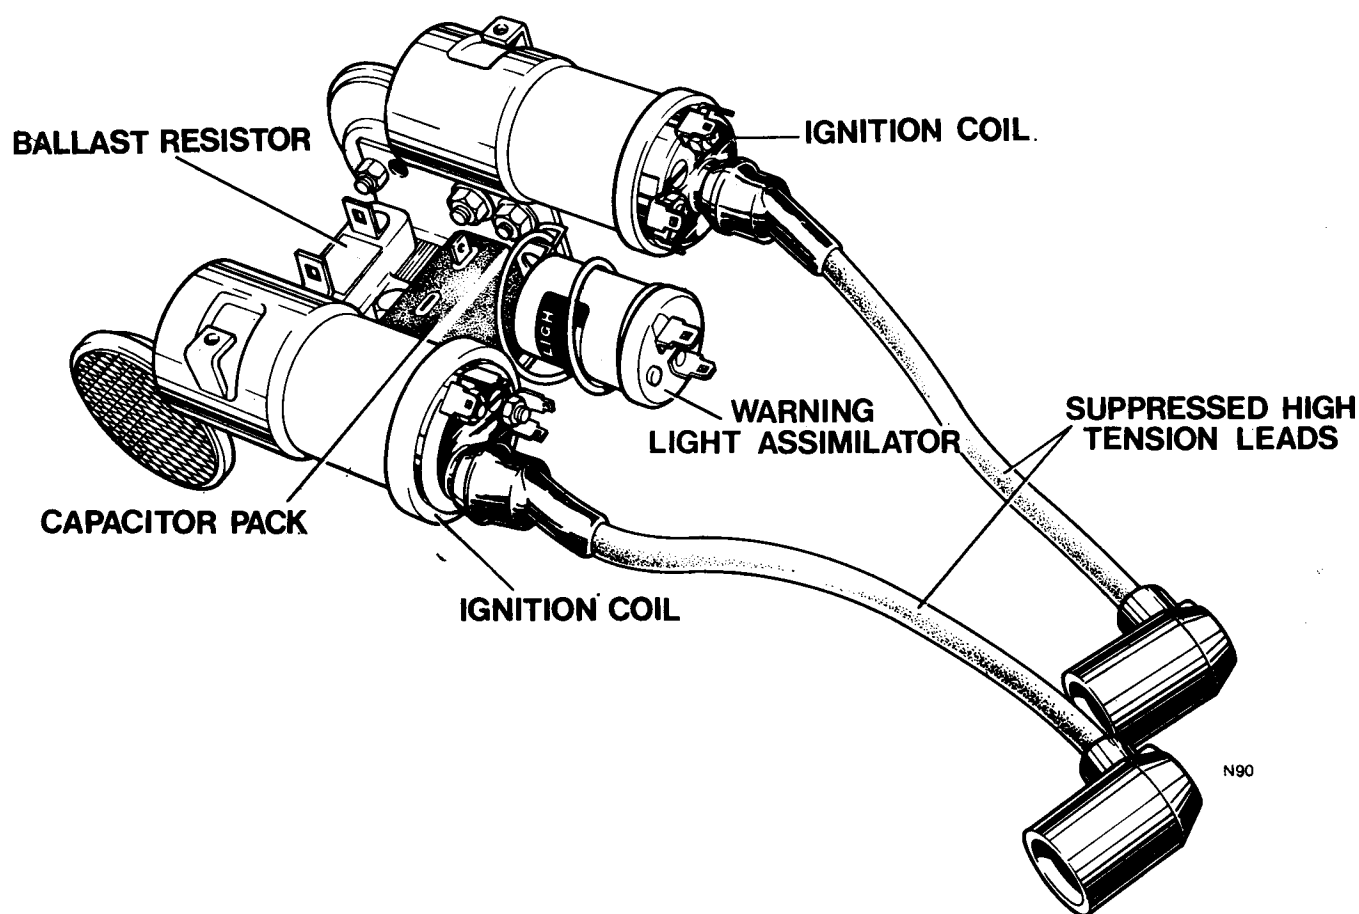

Fig. F6 Coil cluster from rear beneath
- 18 Refit the coil cluster, (the cluster is illustrated in *Fig. F6*) and reconnect the contact breaker leads colour to colour.